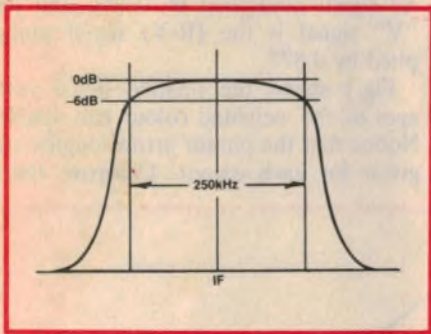

Fig.4: a good compromise selectivity curve for a stereo FM tuner: 250kHz wide between -6dB points and steep sides.
**Bandwidth and Selectivity** are areas of contention and compromise for which published specifications are frequently vague. A wide bandwidth is desirable to minimise envelope distortion (therefore THD) but can lead to problems with inter-channel interference. Fig.4 is a "textbook" selectivity curve for a stereo tuner suggesting, as a good compromise, a bandwidth of 250kHz between 6dB-down points. Beyond that, the sides should be as steep as practicable.